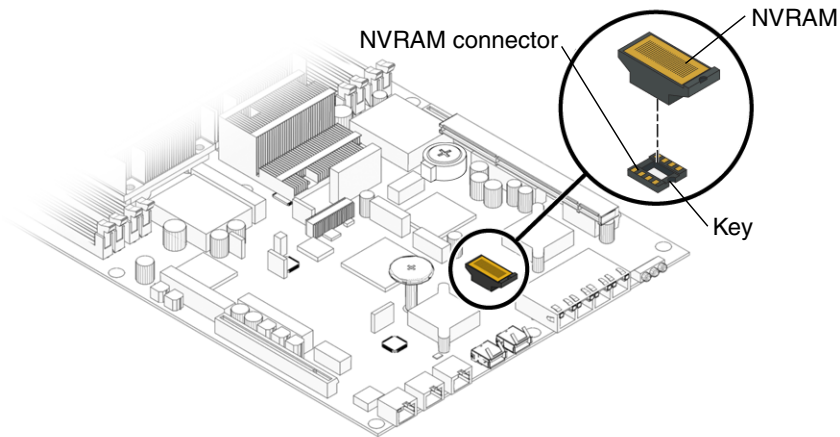

FIGURE 3-39 Removing NVRAM
6. **Locate the NVRAM (FIGURE 3-39).**
2. **Locate the NVRAM connector** (FIGURE 3-39).